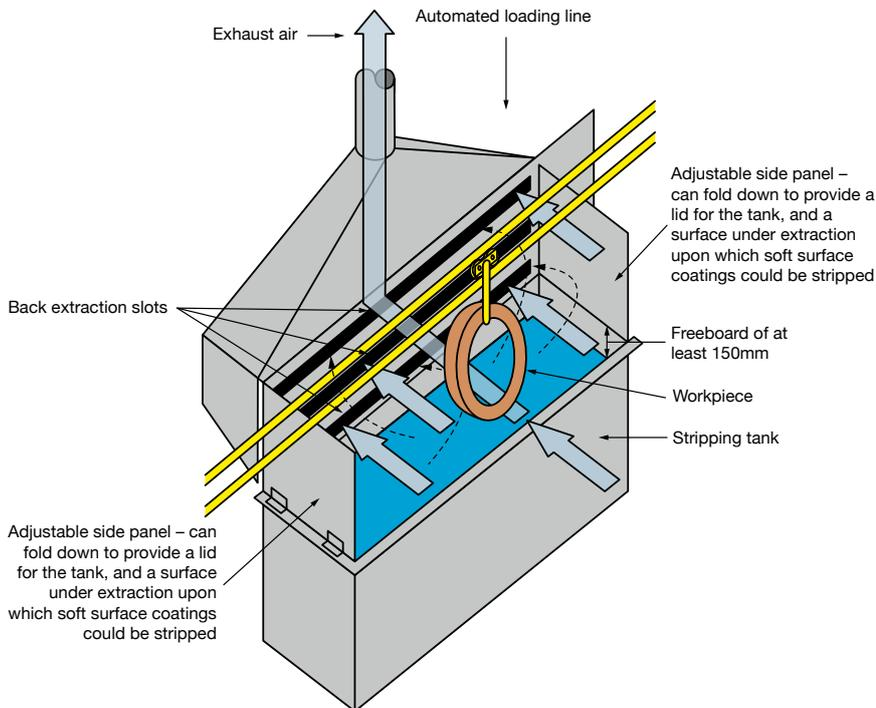

Figure 1 Stripping tank with back slot extraction and automated loading line
- ✓ The dimensions of the tank should be adequate for the largest workpiece to be dipped so that the lid can be fully closed during the stripping process, and the level of the fluid remains at least 150mm and preferably 300mm below the lip (see Figure 1).
- ✓ Provide a tank with effective LEV, eg back slot extraction (see Figure 1).